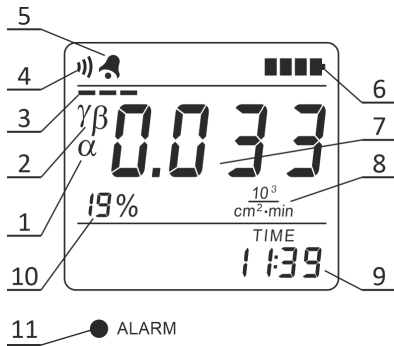

Figure 2.10 – LCD of the radiometer
2.3.3.8.8 When measuring characteristics of alpha radiation, the LCD of the radiometer displays the following information (Figure 2.10):
- estimated limit of statistical deviations (10) of the measurement result (7);
- " α " symbol (1) - an indication of the measured radiation type;
- " $\gamma\beta$ " symbol (1) - is displayed if the measurement takes place without consideration of gamma-beta radiation component;
- instantaneous value indicator (3);
- sound symbol (4) (if sound signaling of registered gamma quanta, beta and alpha particles is switched on);
- alarm clock symbol (5) (if the alarm clock is on);
- battery status symbol (6);
- measurement result (7);
- dimension of measurement result (8) $10^3/(\text{cm}^2 \cdot \text{min})$, cps or faded away, if the dimension is Bq/cm^2 ;
- current time (9).
If surface activity measurement is carried out in Bq/cm^2 , then "Act" characters are periodically displayed on the LCD of the radiometer and the dimension of the measurement result goes blank (8) (Figure 2.10).